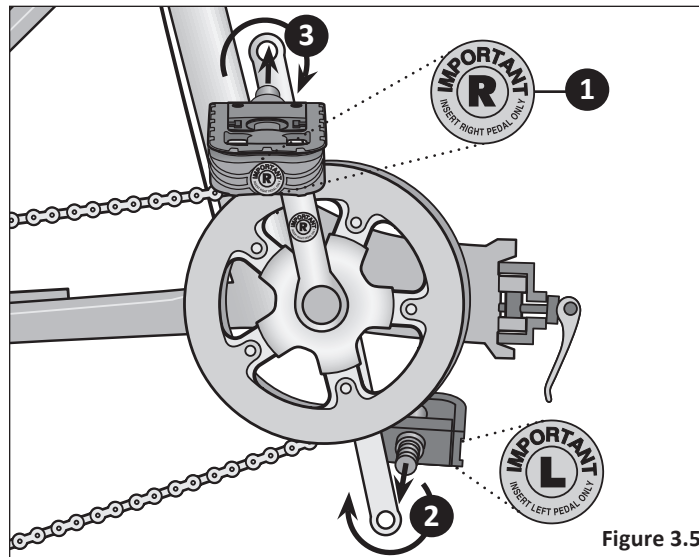

Figure 3.5
- ❶ Match the pedal marked R with the right-hand crank arm, and match the pedal marked L with the left-hand crank arm. **Figure 3.5**
- ❷ Place the threaded pedal into the threaded hole on the crank arm.
- ❸ By hand, slowly turn the spindle toward the front of the bicycle. Clockwise for right pedal, counterclockwise for left pedal.